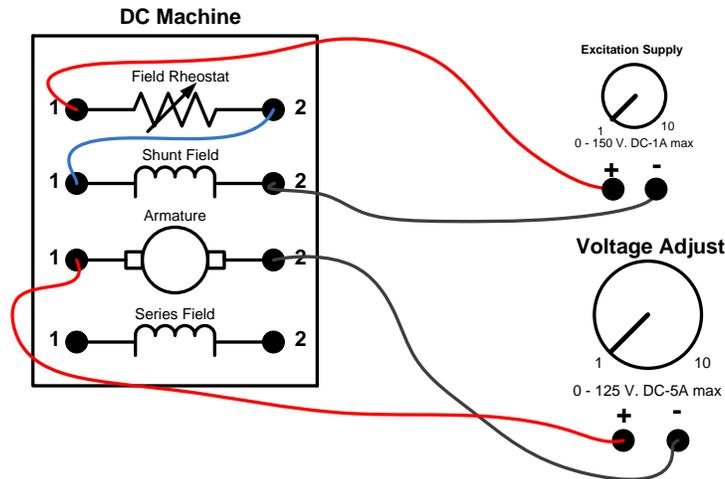

Figure 3
- Connect the DC machine's armature (Figure 3) to the Variable DC Supply on the lab bench.